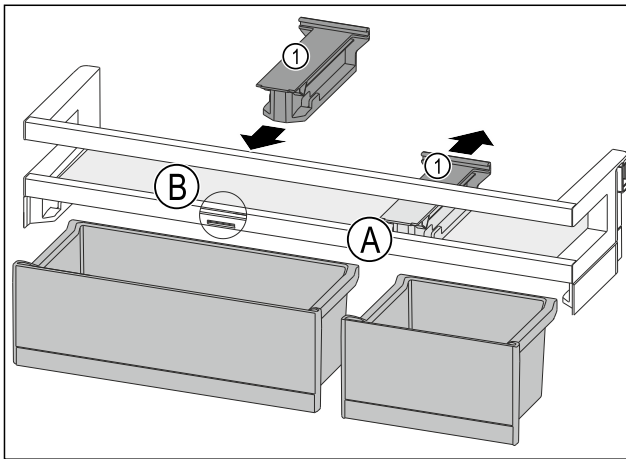

Fig. 111
- Pull off the retaining part Fig. 111 (1) in position Fig. 111 (A) downward.
- Insert the retaining part Fig. 111 (1) in position Fig. 111 (B).